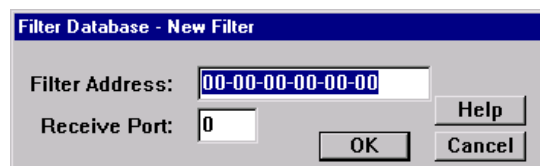

Figure 5-11. Filter Database – New Filter Window
1. Click on the **New** button in the lower left of the window. A window (Figure 5-11) will appear.